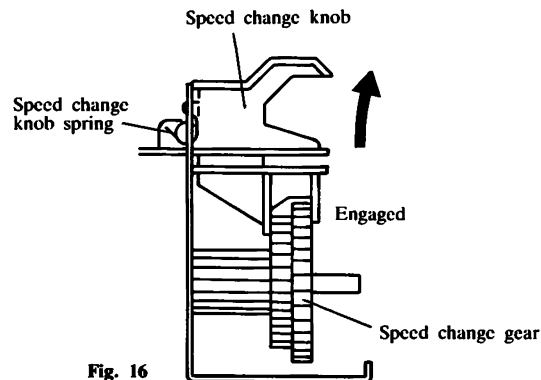

Fig. 16
- (1) Lift the Speed change knob up to separate it from the gear and pull the knob to the direction of the arrow indicated in Fig. 16 to remove the knob. (Speed change knob spring is also removed.)